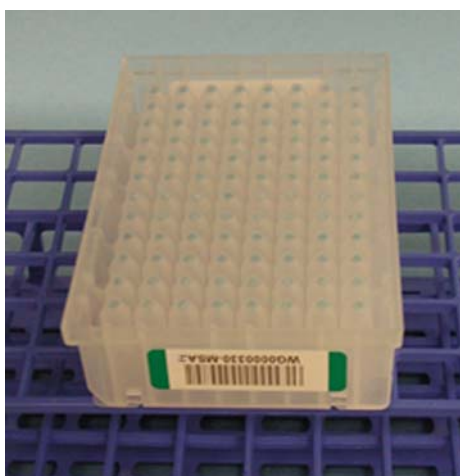

Figure 26 Uncovered MSA2 Plate Inverted for Air Drying
17. Leave the uncovered, inverted plate on the tube rack for 1 hour at room temperature (22°C) to air dry the pellet (Figure 26).